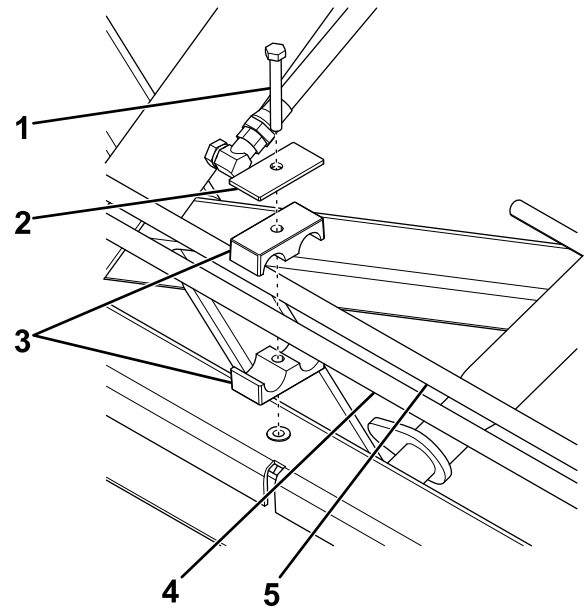

**Figure 10**
2. Route the hoses toward the lift cylinder (Figure 10).
3. Attach the 90° fittings to the lift cylinder as shown in Figure 10.
4. Attach the flow control valve to the 90° fitting on the bottom of the lift cylinder using the coupler (Figure 10).
**Note:** Ensure that the adjustment knob on the valve is positioned towards the coupler assembly as shown in Figure 10.
5. Secure the short hose to the top fitting on the lift cylinder (Figure 10).
6. Secure the medium hose to the flow control valve (Figure 10).